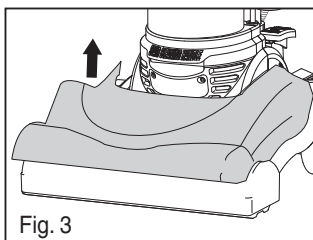

Fig. 3
- 3) Lift and remove brush roll cover (Fig. 3).